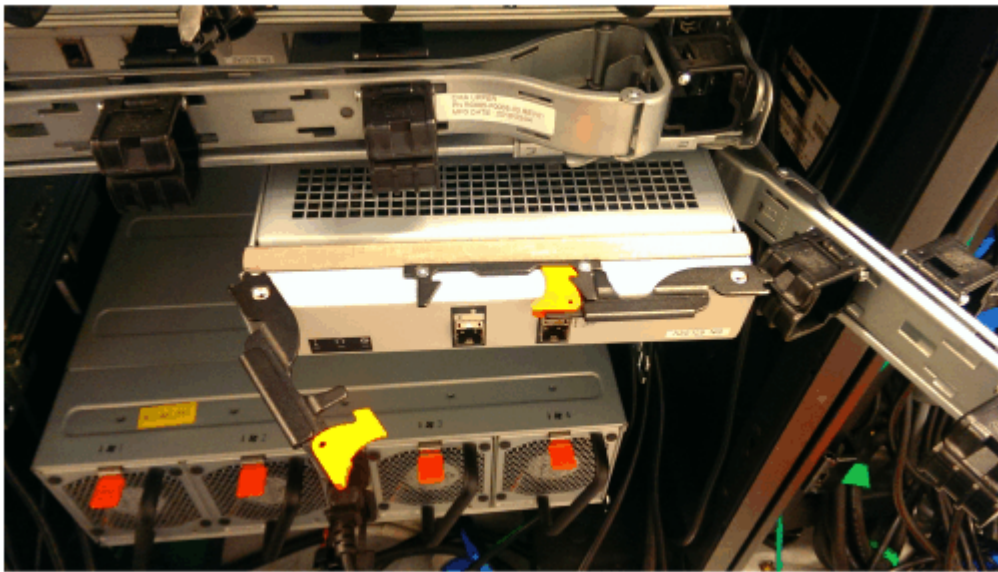

Figure 52. Install the expansion canister
1. Disconnect the elbow of the lower cable management arm to swing it out of the way, as shown in Figure 52 on page 52.
4. When the expansion canister is fully inserted, rotate each handle inward to lock it into position, as shown in Figure 52 on page 52.